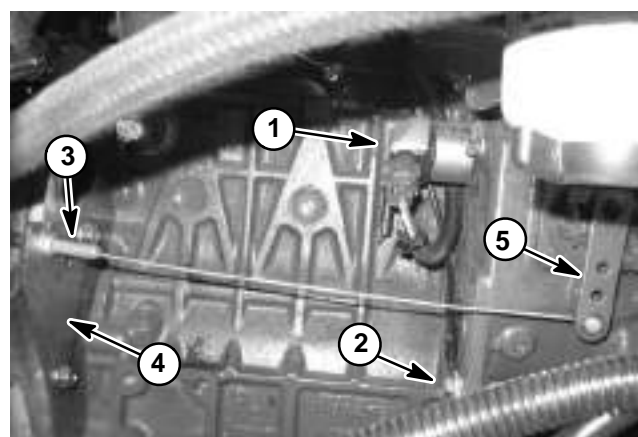
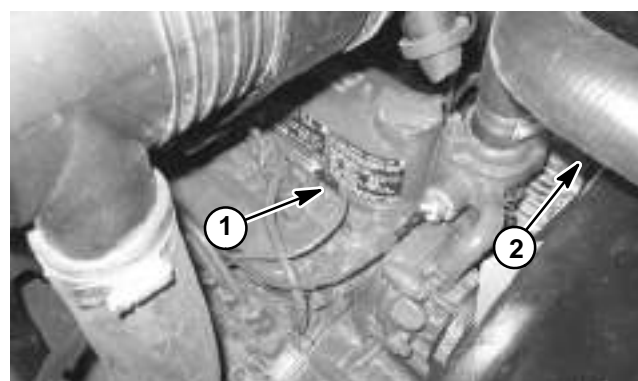
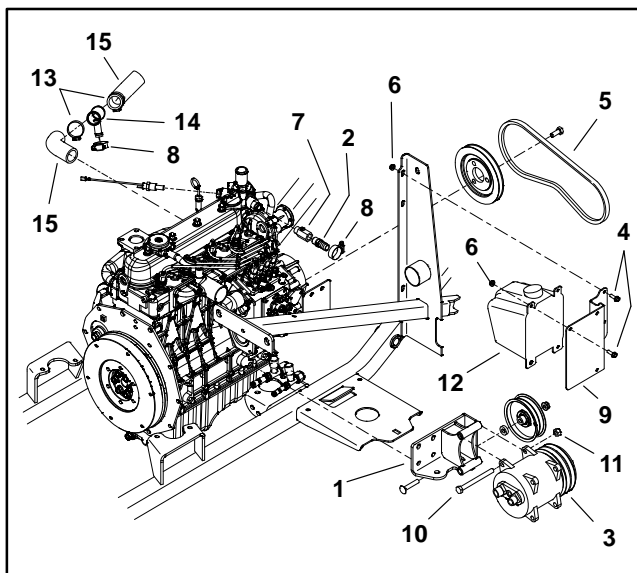

Figure 10
Figure 11
Figure 14
- A. Negative battery cable, wire harness ground and fuel stop solenoid (Fig. 10).
- B. Glow plug bus (Fig. 11).
10. Disconnect throttle cable from the throttle bracket and the speed control lever (Fig. 10). Position cable away from engine.
11. Remove two (2) flange head screws that secure throttle bracket to engine. Remove bracket from engine.
14. On machines with an operator cab (Fig. 14):
9. Secure flywheel housing and fuel/water separator bracket to engine end plate with eight (8) flange head screws and two (2) socket head screws.
10. Secure engine to the engine mounts attached to the frame with two (2) cap screws, snubbing washers and lock nuts.
11. Connect fuel hoses to the fuel/water separator (Fig. 10). Connect return fuel hose to front injector nozzle (Fig. 11).
12. On machines with an operator cab (Fig. 14):